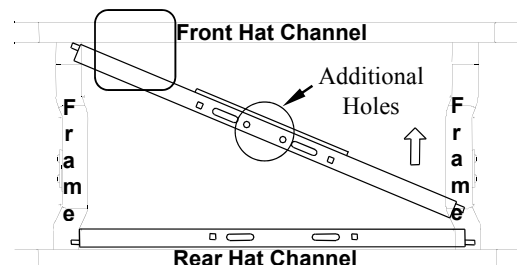

Figure 3
3. From underneath the vehicle, install the **rear** hitch cross member by placing one end above the vehicle frame and maneuvering the notched section of the opposite end above the vehicle frame. The forward cross member has (2) additional holes (see figure 3). Temporarily position the hitch cross member against the rear bed cross member of the vehicle.